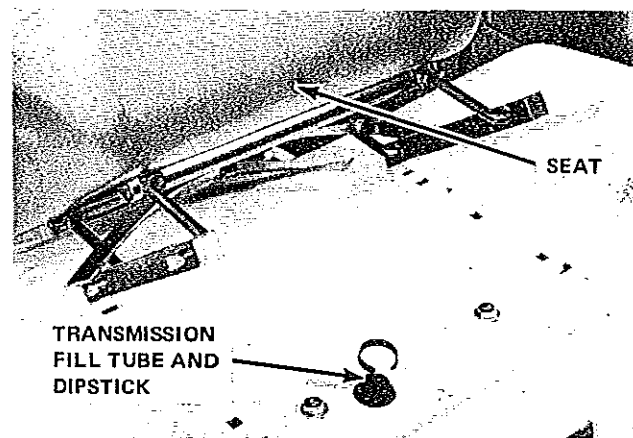

Figure 6
8. With transmission cold, thoroughly clean area around hydrostatic transmission dipstick and fill tube. Remove dipstick and check transmission fluid level. Level must be maintained in the operating zone. Refer to Figure 6.